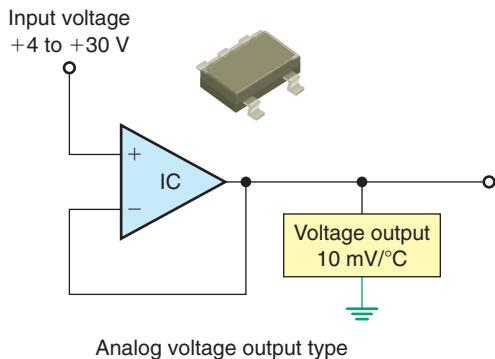

Figure 4-56 Integrated circuit temperature sensor.
Integrated circuit (IC) temperature sensors (Figure 4-56) use a silicon chip for the sensing element. Most are quite small and their principle of operation is based on the fact that semiconductor diodes have temperature-sensitive voltage versus current characteristics. Although limited in temperature range (below 200°C), IC temperature sensors produce a very linear output over their operating range. There are two main types of IC temperature sensors: analog and digital. **Analog** sensors can produce a voltage or current proportional to temperature. **Digital** temperature sensors are similar to analog temperature sensors, but instead of outputting the data in current or voltage, they convert the data into a digital format of 1s and 0s. Digital-output temperature sensors are therefore particularly useful when interfacing to a microcontroller.